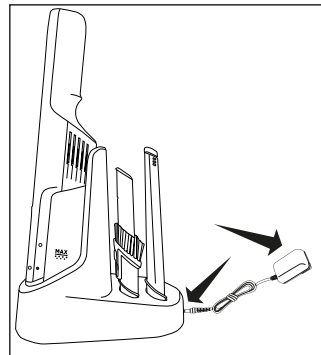
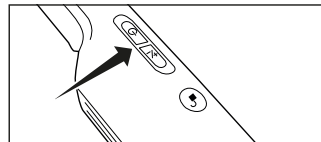

Fig. 2
Fig. 3
2. Plug the battery charger into the Storage/Charging Station and into an electrical outlet (Fig. 2). The indicator light on the vacuum will blink red while the battery is charging. When the indicator light is green, the battery is fully charged (Fig. 3). Charging time is approximately 3 hours.